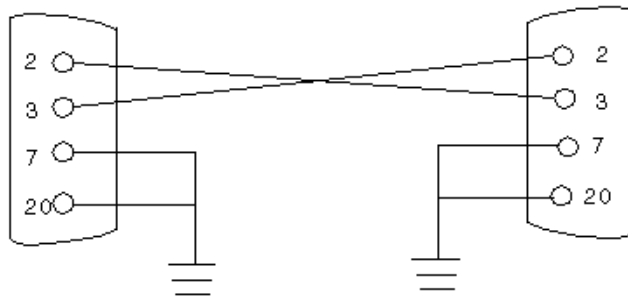

Figure 3-1 Setting Up a TIP Connection
1. See Figure 3-1. Connect serial port A of the system being tested to serial port B of another Sun workstation using a serial null modem cable (connect cable pins 2-3, 3-2, 7-20, and 20-7).